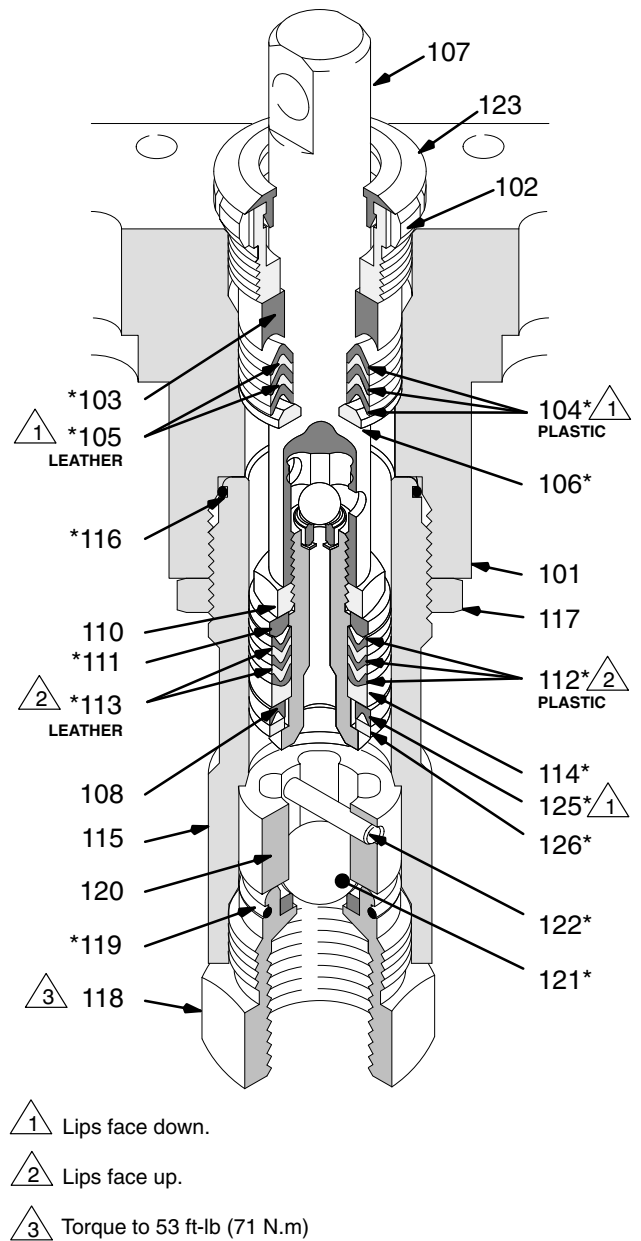

Fig. 23
9. Stack these parts one at a time into the top of the manifold (101): the male gland (106*), alternately three plastic packings (104*) with two leather packings (105*), and then the female gland (103*). See Fig. 23.
10. Install the packing nut (102) and plug (124), but leave loose for now. See Fig. 23.